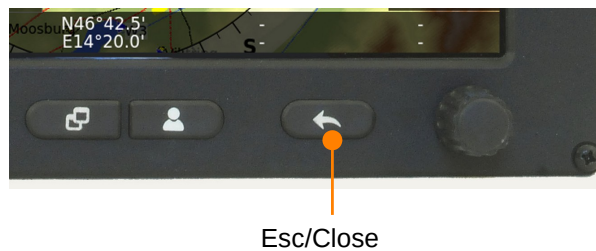

Figure 1: The **Esc/Close** button on Nesis III.
1. Press and hold (long press) the **Esc/Close** button, figure 1. Release the button after about 10 s. This will force the A20 power management chip into reset. If you are able to measure the current consumption of the device, you will notice the current drop from about 60 mA to 30 mA.